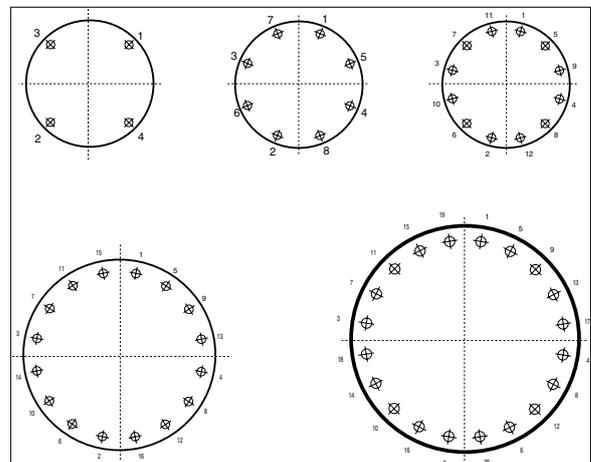

Figure 12-9 Bolt Torquing Sequences
- 6 Using a torque wrench, tighten all bolts to 35 N-m torque, following standard flange bolt tightening sequences shown in Figure 12-9.
- 8 Uniform pressure should be established over the flange face by tightening bolts in 7 N-m (5lb-ft) increments according to the sequence shown in Figure 12-9. For flanges with more than 20 bolts, similar alternating bolt tightening sequences shall be used. (As per ASTM D4024-00)